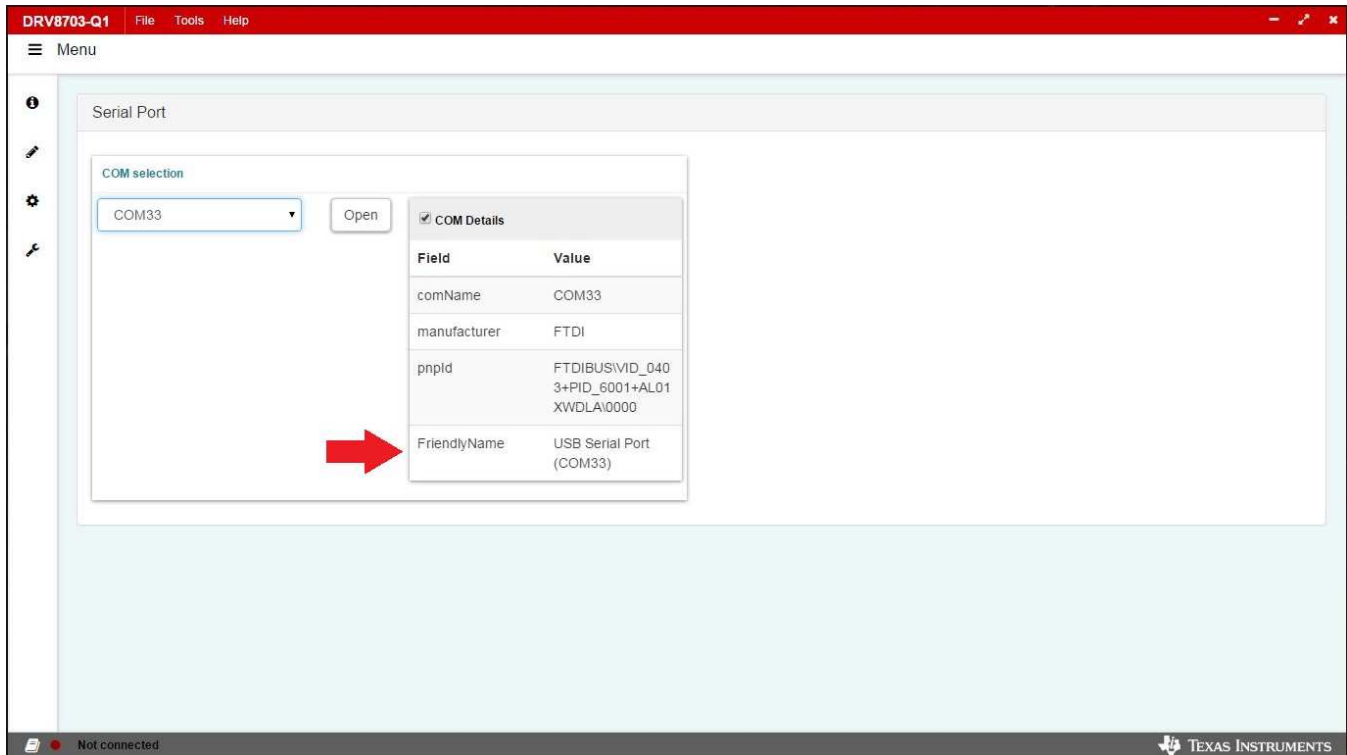

Figure 5. DRV8703-Q1-EVM GUI (List COM ports)
- Step 5. The *Serial Port* page displays a list of COMs available for opening the connection as shown in Figure 5. If nothing is physically connected to the PC, the COM drop-down list displays -- *No Ports* --.